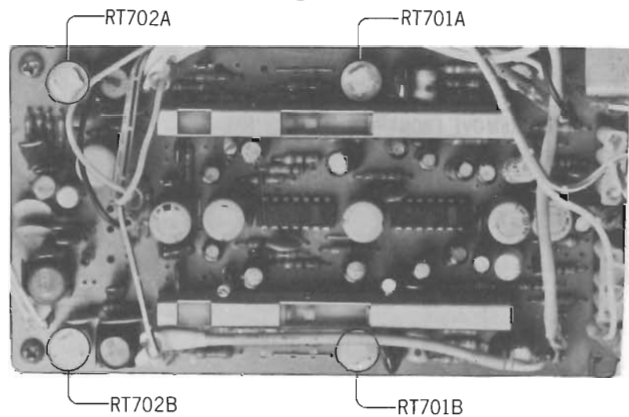

Fig. 4
- ① Load instrument with test tape TEAC-MTT-116L (or equivalent).
- ② Observe the output (333Hz tone signal) of the right and left channel with a VTVM connected to the output terminals (See circuit board diagram of ST-3440).
- ③ Adjust RT701A (right channel), RT701B (left channel) for 250mV output (See Fig. 4).
- ③ Adjust RT704A (right channel), RT704B (left channel) for 5mV (See Fig. 4).